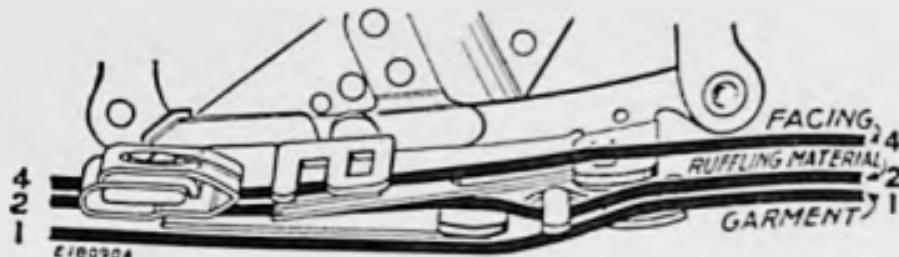

FIG. 65. CORRECT POSITIONS FOR THE MATERIALS
(1) Insert the material to be ruffled between the two blue blades **Line 2**, Fig. 65.
(2) Place the material to which the ruffle is to be attached under the separator blade **Line 1**, Fig. 65.
(3) Place the facing material over the upper blue blade **Line 4**, Fig. 65.